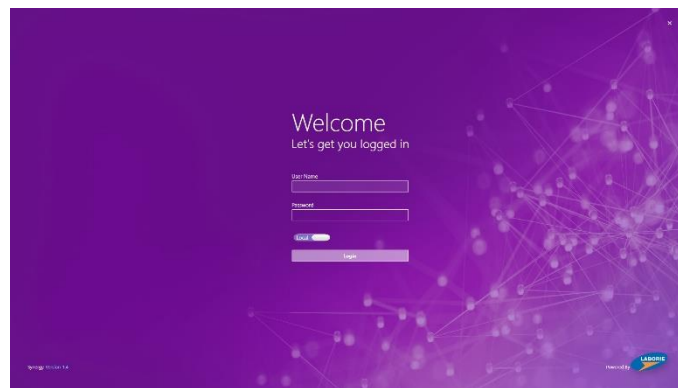

Figure 26: Synergy Login Page
1. Double-click the Synergy shortcut icon on the desktop or launch the Synergy application from the LABORIE Dashboard. The Synergy Login Page will be displayed (Figure 26). Upon first login ensure to accept the **End User License Agreement**.